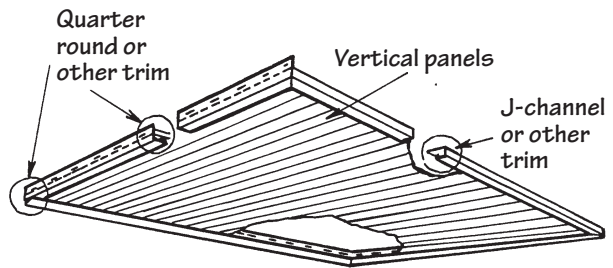

Figure 72.
1. Begin by installing receiving channels on all four sides of the porch (Fig. 72). If F-channels are being used, nail them to the existing walls. If J-channels are being used, a nailing base will have to be installed.